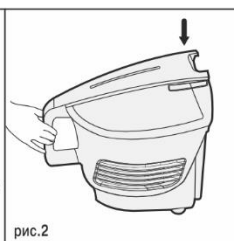

рис.2
3. Holding the dust container by the handle (12), grab the cover by its rear part (23) and remove it from the dust container (see figure 2 page 2)